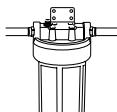

Figure 7
8. Fasten bracket to filter head with four Phillips head screws provided (see Figure 7). Fasten bracket to wall with four Phillips head screws provided. If pre-drilling holes, bracket may be used as a template for making screw hole locations.